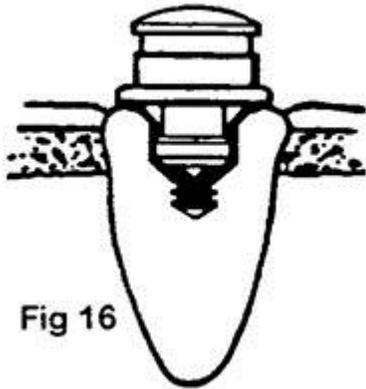

Fig 16
2. Snap a male (stainless steel cap, centering sleeve, and nylon male) into each cemented female (**Fig 16**). Double check the retention of each male by removing it and inserting it back into the cemented female.